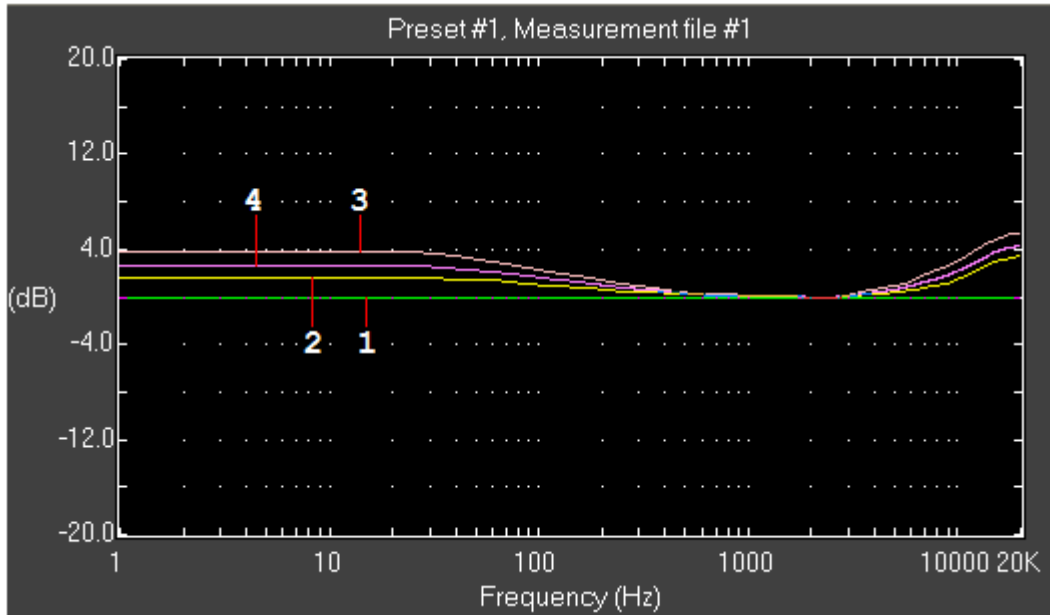

Fig. 10. Equal loudness filter response for master level set at -20.7 dB
Fig. 10 shows correction filter response (4) for master level set to -20.7 dB. 2150 XDM calculates this response by interpolating a target curve between -18 dB (2) and -24 dB (3) dynamic target curves (equal loudness curves).